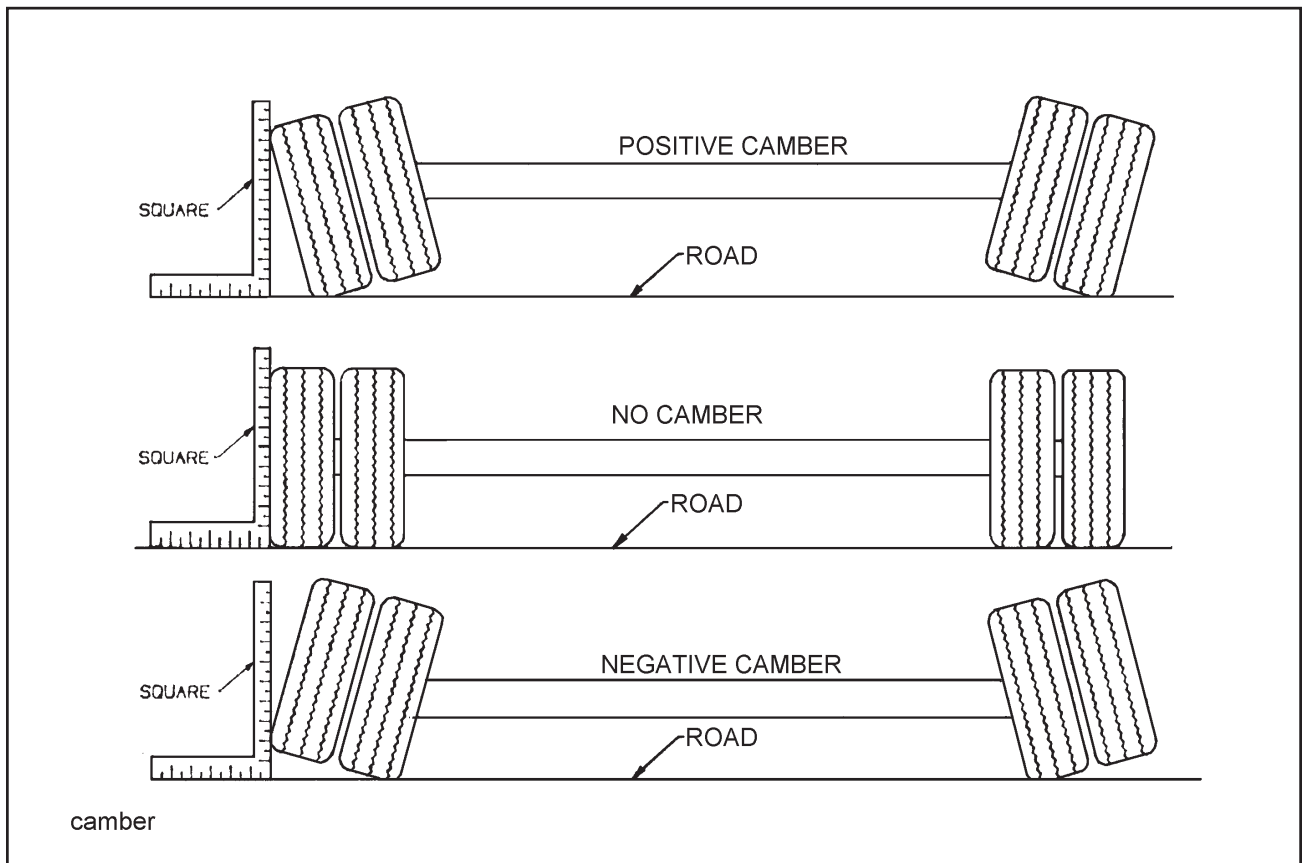

Figure 4-12 Examples of Camber
- d. Follow the same procedures as in Section 4-7.1 b. and c., except place the axle gauge above and below the axle. If gauge point gap is found, the axle has positive or negative camber. The trailer axle has no camber from the factory. If it is found to have positive or negative camber, axle replacement is necessary (See Figure 4-12 for examples of camber).